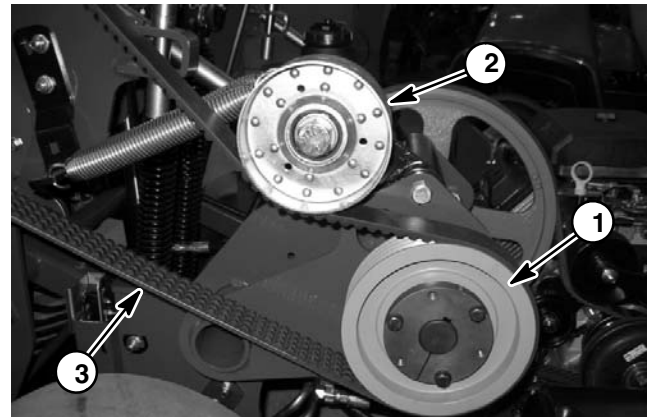
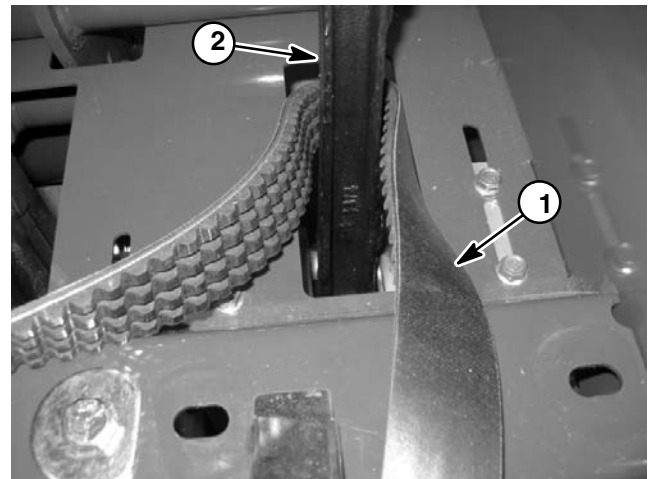

Figure 14
Figure 15
3. Lift idler pulley to release tension on secondary drive belt (Fig. 14). While holding idler away from belt, remove belt from secondary drive pulley. Carefully lower idler pulley.
4. Loosen and remove two (2) lock nuts and hardened D washers that secure rotolink damper for #1 stomper arm (see Rotolink Damper Removal in this section). Lower rotolink damper from coring head frame.
6. Route drive belt down through coring head frame and around lower end of #1 stomper arm to remove secondary drive belt from machine (Fig. 15 and 16).
1. Route secondary drive belt around lower end of #1 stomper arm and up through coring head frame (Fig. 15 and 16).
3. Lift idler pulley to allow installation of belt to secondary drive pulley (Fig. 14). Carefully lower idler pulley to tension drive belt.
4. Raise rotolink damper for #1 stomper arm to coring head frame. Make sure that damper standoff and top spacer are on damper studs. Secure damper to coring head frame with two (2) hardened D washers and lock nuts (see Rotolink Damper Installation in this section).